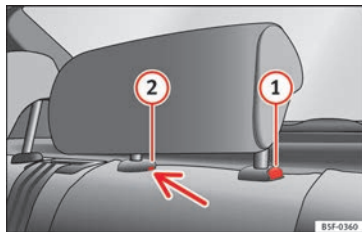

Fig. 143 Rear centre head restraint: release point.
- To set the head restraint lower down, press the  » **Fig. 143** button and move it downwards.
- Press button  » **Fig. 143**, while simultaneously pressing on the security hole  » **Fig. 143** with a flat screwdriver a maximum of 5 mm wide, and remove the head restraint.